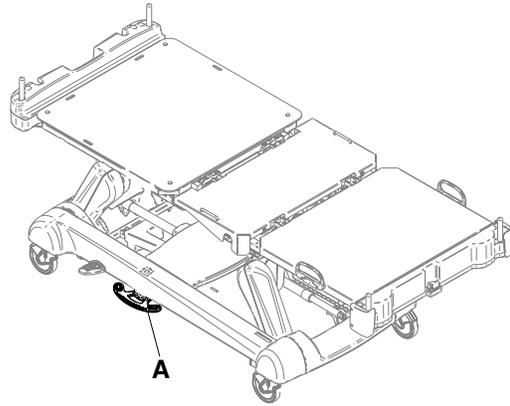

Figure 5: Flipped manual brake pedal
1. Flip down the brake pedal (A) (Figure 5 on page 19).